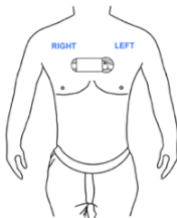

Fig 4 Non-stop mode
- 1) Remove protective covers from the disposable ECG electrodes. Place the adhesive side firmly on the skin of the upper chest, securing on-body adaptor with the larger blue tab to your left as shown in Fig 4.